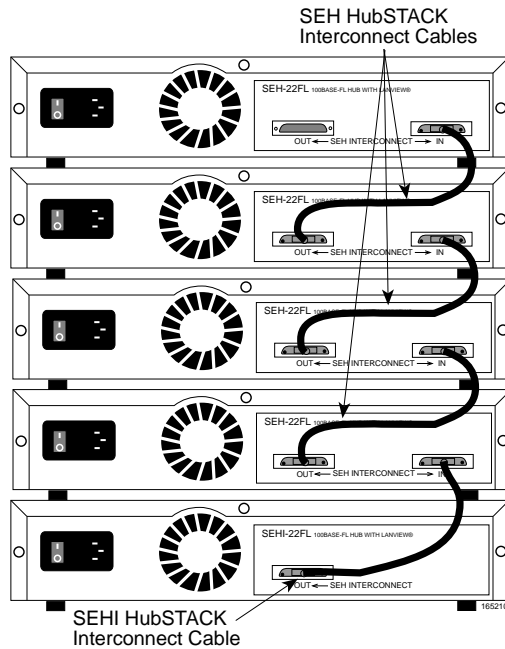

Figure 4-6 Stacking the SEHI
1. Attach the SEHI HubSTACK Interconnect cable to the “OUT” port on the rear panel of the SEHI as shown in Figure 4-6.
1. Attach the SEH HubSTACK Interconnect cable to the “OUT” port on the rear panel of the SEH as shown in Figure 4-6.